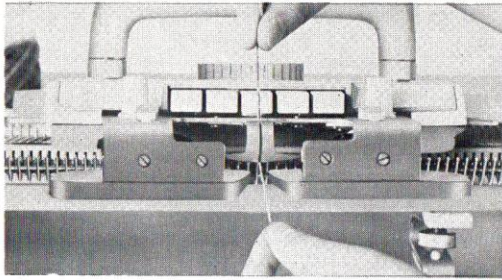

Fig. 3
- b) Thread the yarn into the key hole of the yarn feeder by holding yarn taut with both hands, pull back into slit until you hear the click of the yarn holder spring. (See Fig. 3)